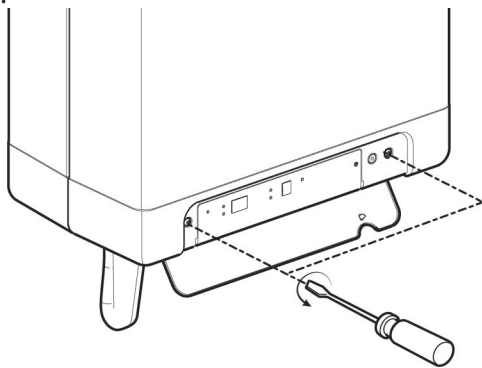

Fig. 1: Loosing Retaining Screws
1. Remove the front jacket panel by loosening the retaining screws on each side of the display (see Fig. 1).
Step 3 only applies to replacing the old style temperature sensor. If replacing the new style temperature sensor (see Fig. 1) skip to step 4.
Step 4 only applies to replacing the new style temperature sensor (see Fig. 1). If replacing the old style temperature sensor skip to step 5.